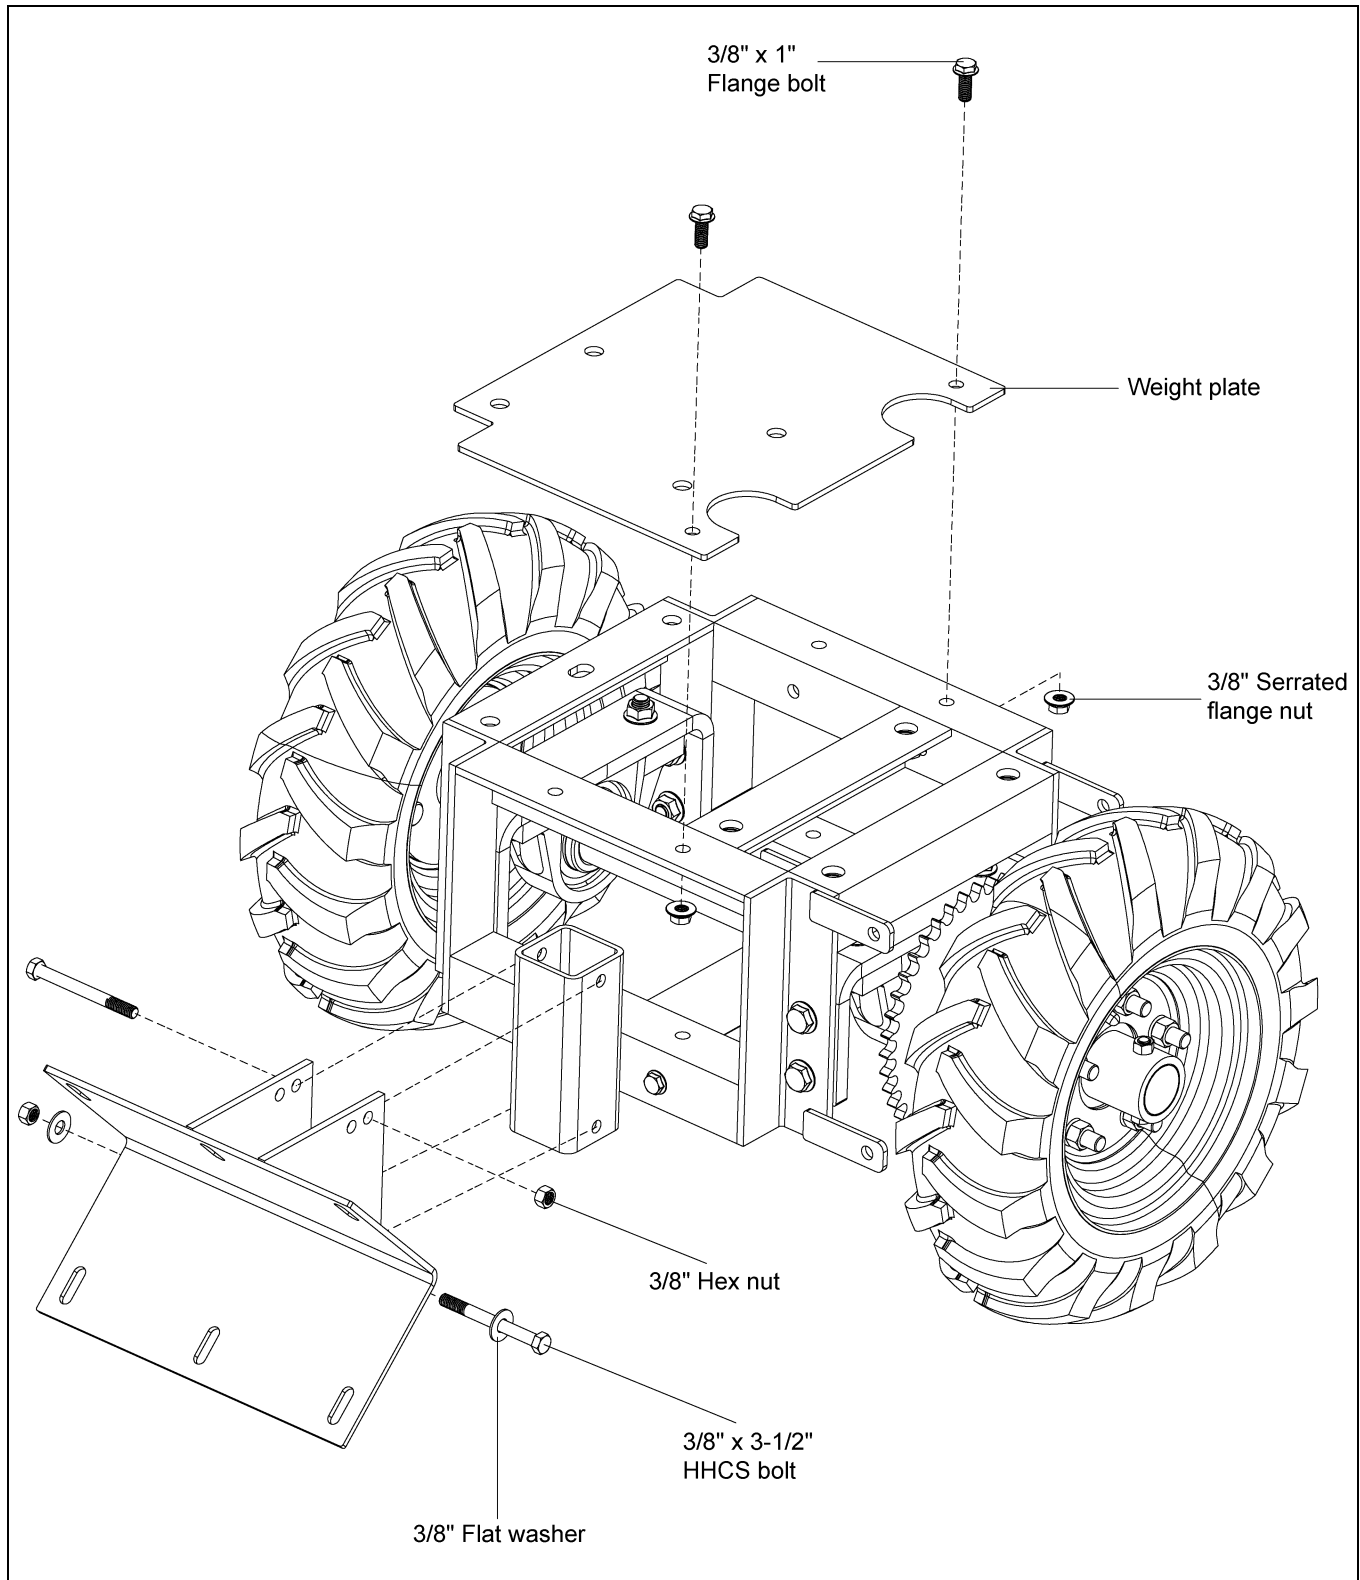

Figure 4D
9. Bolt the shield bracket to the front of the tractor frame using two (2) 3/8"-16 x 3-1/2" hex head cap screws, two (2) flat washers (only on the bottom slot of the bracket) and hex nuts.
10. Attach the weight plate to the tractor frame using two (2) 3/8"-16 x 1" flange bolts and serrated flange nuts. (See Figure 4D.)